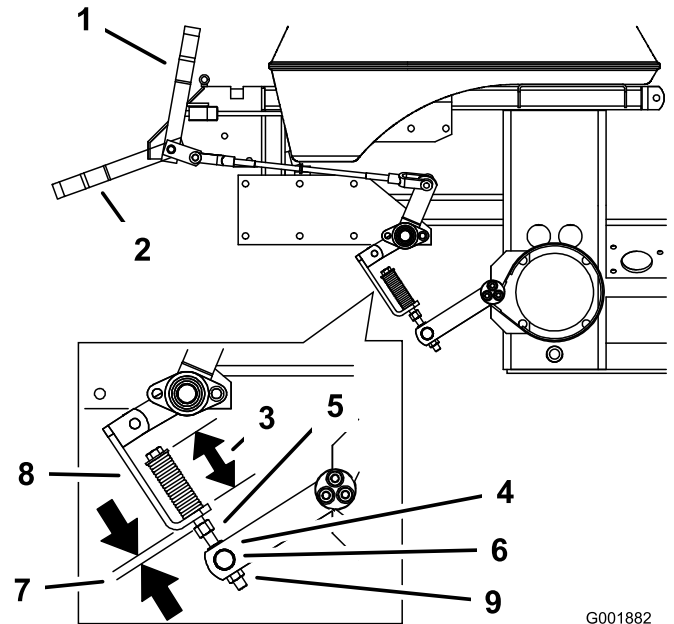

Figure 63
2. Measure the length of the spring. The measurement should be 2-3/4 inch (70 mm) between the washers (Figure 63).
3. If an adjustment is necessary, loosen the jam nut below the spring and tighten the nut directly below the yoke (Figure 63). Turn the nut until the correct measurement is obtained. Tighten the two nuts together and repeat on the opposite side of the unit.
6. Measure the distance between the spring bracket and the adjusting nut under spring bracket. The measurement should be 1/4-5/16 inch (5-8 mm) (Figure 63).
7. If an adjustment is necessary, loosen the jam nut directly above the trunion roller. Turn the lock nut below the trunion roller until the correct measurement is obtained (Figure 63).
8. Tighten the jam nut directly above the trunion roller (Figure 63).